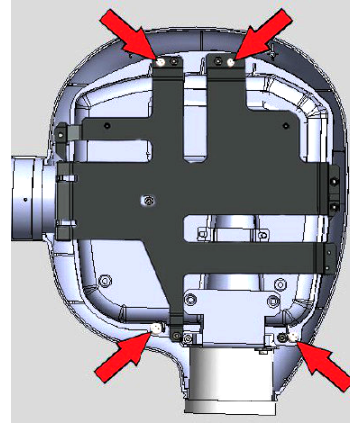

Figure 44
- Remove the 4 M3X16 self tapping pan head screws with M3 plain washers using phillips screw driver as shown in the Figure 44 and remove the top cover from the Tube Head.